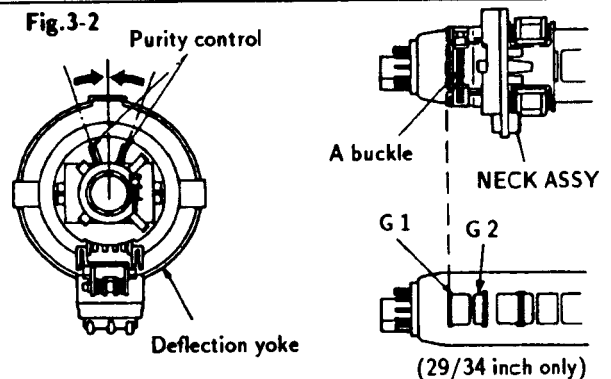

Fig.3-2
2. Position neck assy as shown in Fig.3-2.